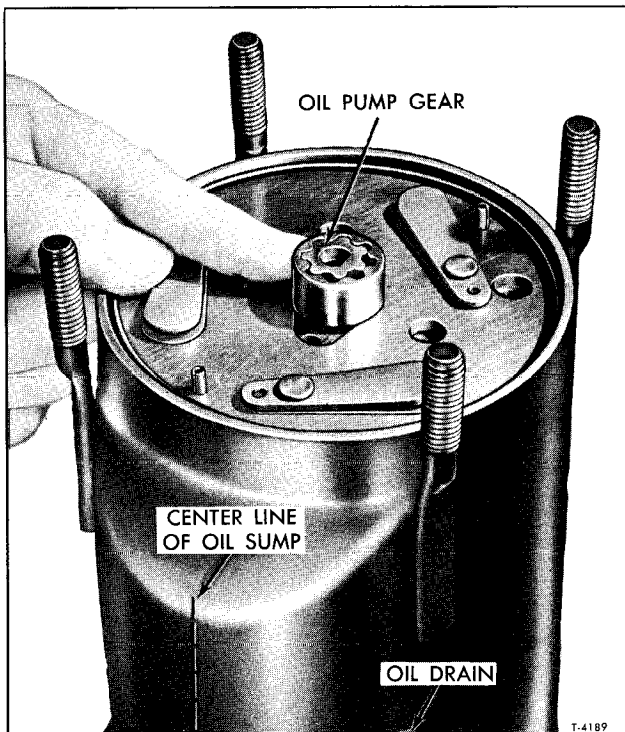

Figure 48—Proper Oil Pump Gear Positioning
- c. Facing the centerline of the sump and viewing from the sump side (bottom) of the compressor, move the OUTER gear toward the right (side having the oil drain fitting) until it is at approximately 90° (3 o'clock position) from the centerline of the oil sump (figure 48).